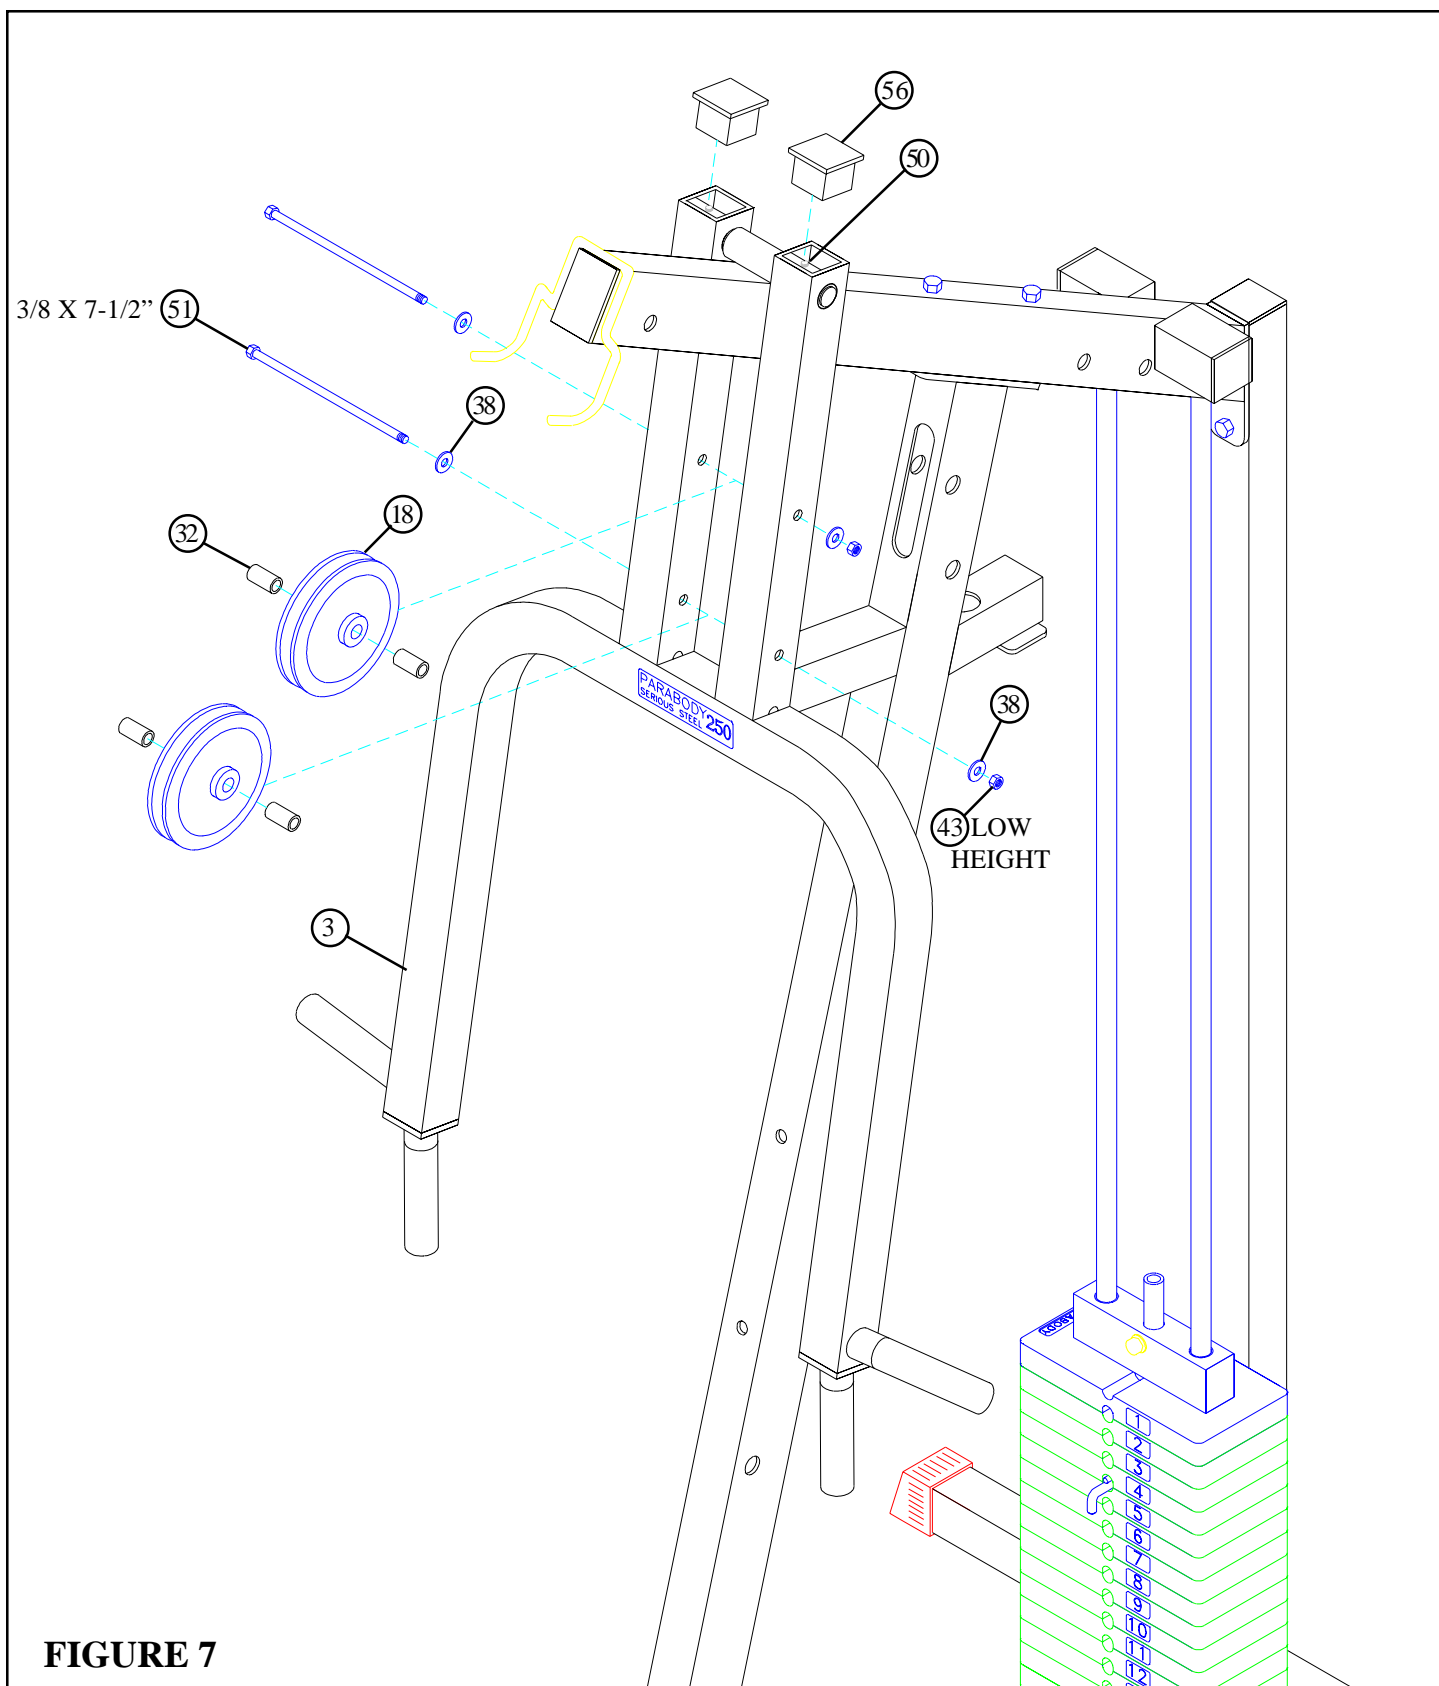

**FIGURE 5**
- Loosely assemble the TOP BOOM (7) to the REAR UPRIGHT (9) using two 1/2 X 3" BOLTS (46), two 1/2" WASHERS (39), and one 1/2" LOCKNUT (40). See FIGURE 5.
- Loosely assemble the TOP BOOM (7) to the FRONT UPRIGHT (2) using two 1/2 X 4" BOLTS (47), two 1/2" WASHERS (39), and two 1/2" LOCKNUTS (40). See FIGURE 5.
- At this time, securely tighten all frame connections in this order: REAR UPRIGHT (9) to TOP BOOM (7), REAR UPRIGHT (9) to BASE (8), TOP BOOM (7) to FRONT UPRIGHT (2), and FRONT UPRIGHT (2) to BASE (8).